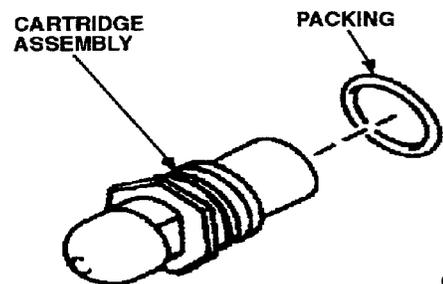

Figure 30. Verify Presence of Packing
- (2) Install packing on cartridge (Figure 30).